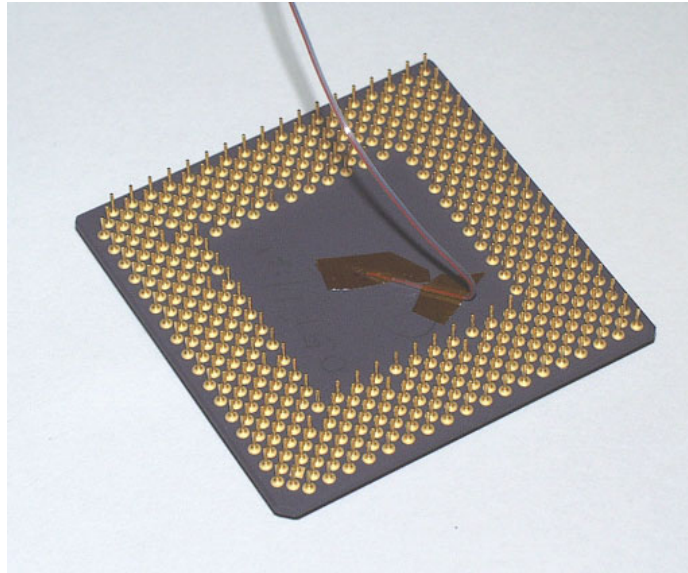

Figure 13. Thermocouple Secured with Kapton Tape and Bent
Do not tape all the way to the corner; leave some room. See Figure 13 on page 24.
9. Bend the thermocouple gently to allow the wire to follow a smooth path when it is placed in the socket. See Figure 13 on page 24.
Figure 13 shows the thermocouple secured to the processor die with additional Kapton tape. The thermocouple is also bent to follow a smooth path when it is placed in the socket.